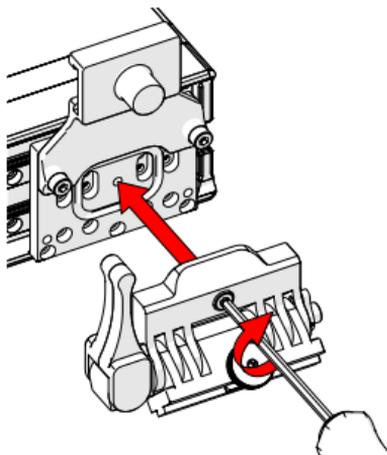

Fig. 142 - Install (*male*) pivot nose
4. Mount the (*male*) pivot nose (*sold separately*) to the raster arm (*Fig. 142*).